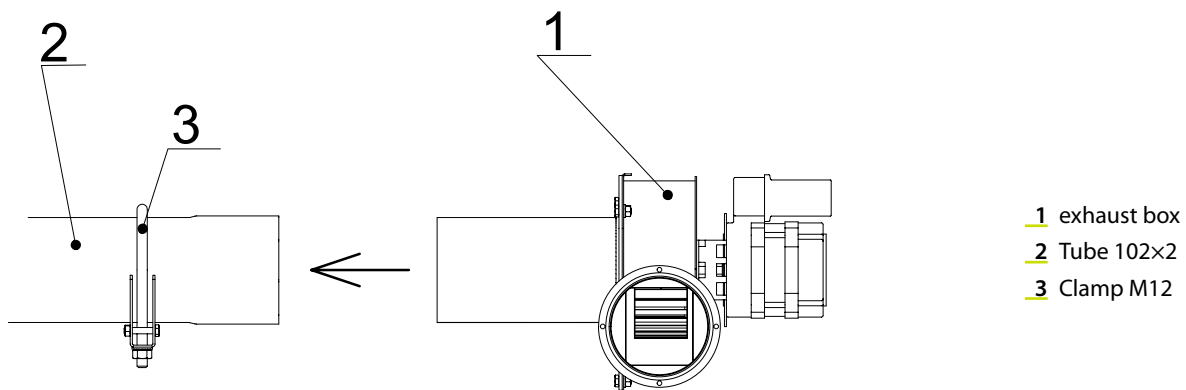

Fig. 27: Installation of the exhaust box
Insert the exhaust box (EB) into the neck of the last pipe (*Fig. 27*) so that the holes for the tenon are covered. There are 2 holes for the tenon in the EB suction neck, if it is necessary to turn the EB so that neither one overlaps with the hole in the pipe, it is possible to drill